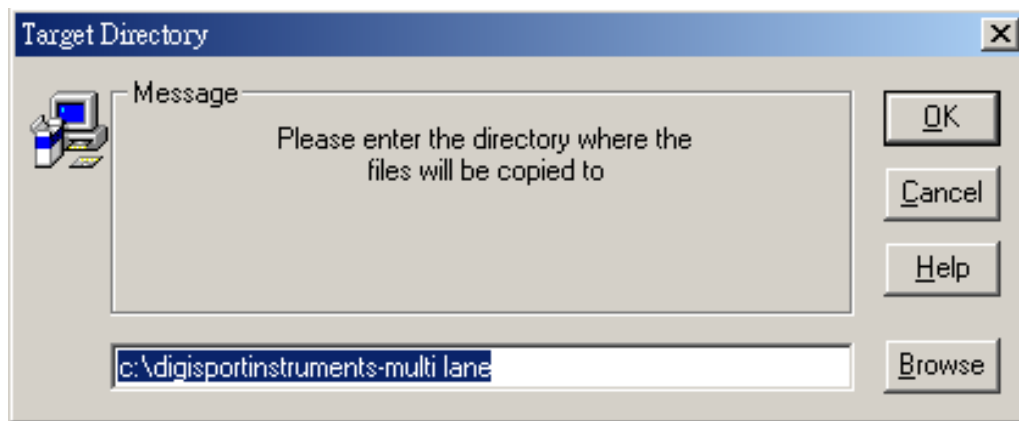
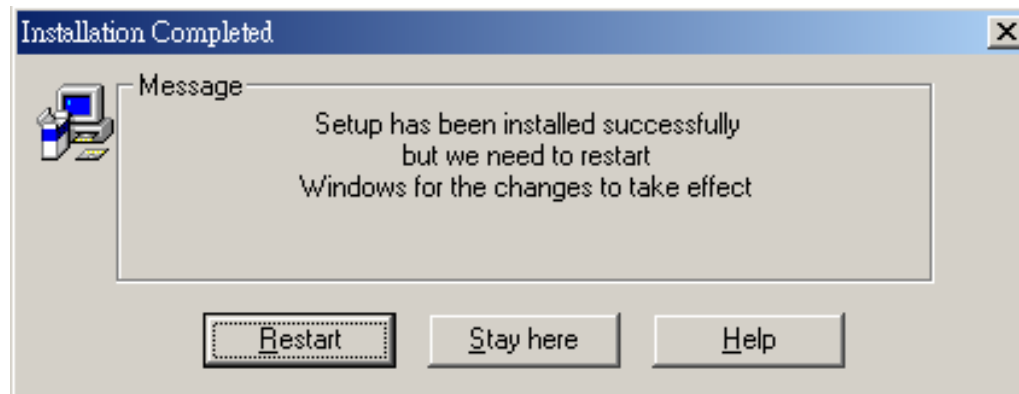

Fig. 36
Fig. 37
- 6) The program will install Multilane in C:\digisportinstruments-Multi lane, click 'OK' to accept Fig. 36. When the installation is complete, click the 'Restart' button to reboot the computer and let the changes to take effect Fig. 37. A shortcut icon 'Multilane' will be created on the computer desktop.